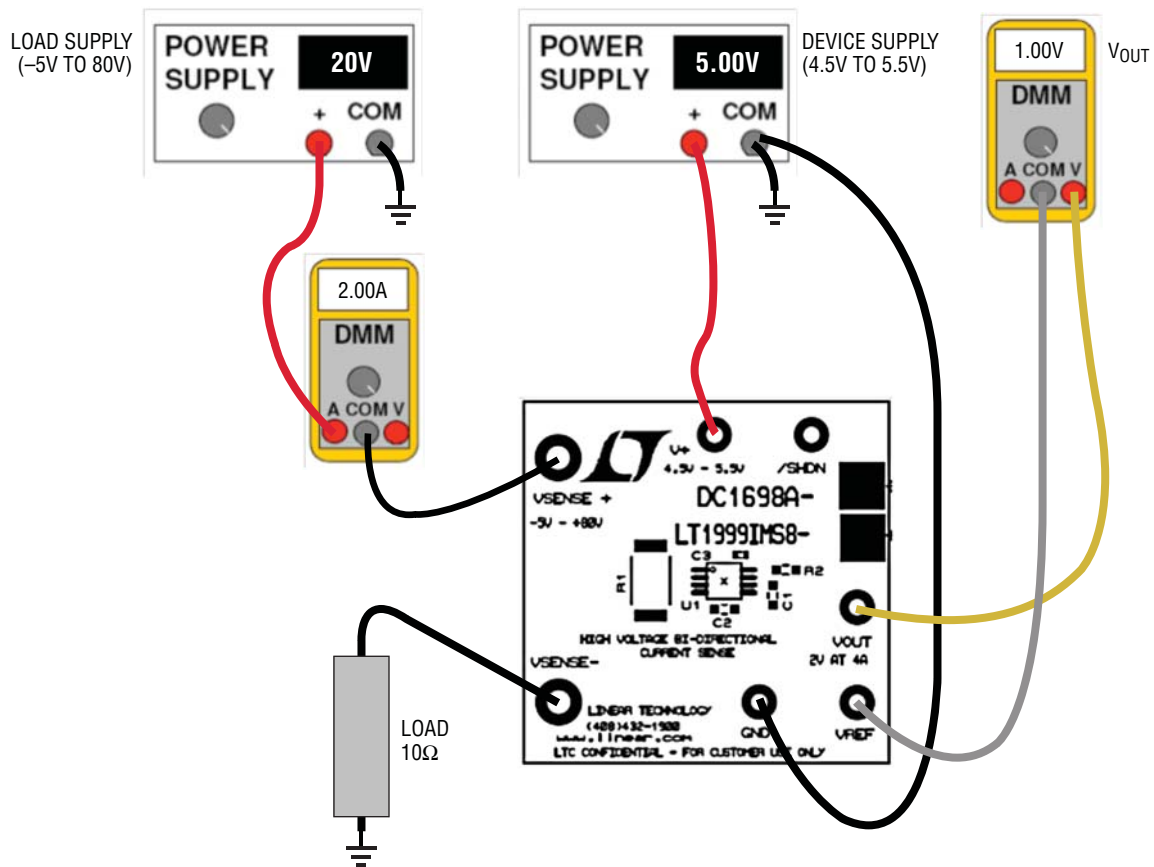

Figure 1. Proper Measurement Equipment Setup
Demonstration circuit 1698 is easy to set up and evaluate the performance of the LT1999. Refer to Figure 1 for proper measurement equipment setup and follow the procedure:
2. With power off, connect the load to the V_{SENSE}^- . If the load power source does not have accurate current readout a DMM may be connected in series with the load as shown in Figure 1.